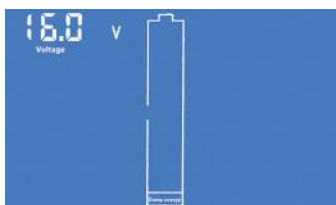

Figure 5: Cut-off voltage setting interface (low bit)
Step 1: After you set the full voltage, you will need to press the button longer until LCD shows the interface of Fig. 5, then release the button;